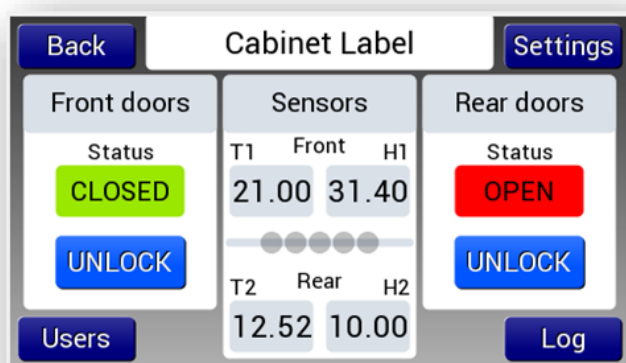
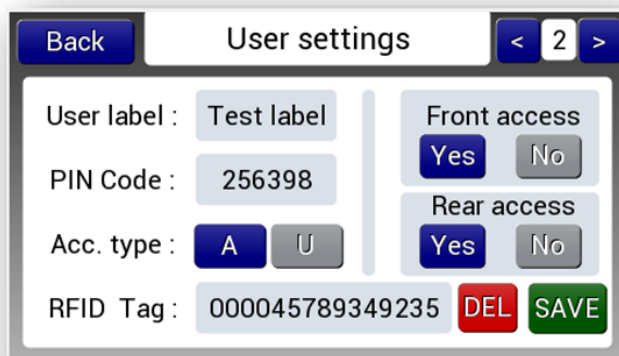

Figure 6
Figure 11
- **Login** – moves you to the status screen (depending on the privileges) shown in Fig 6.
In case of the previously selected “Login” function the use of the “Continue” button will move you to the status screen shown in Fig. 6.
Figure 11 shows the user account settings section which is referred to by the “Users” button on the start page (Fig. 6). The following fields can be configured for each of the 30 available accounts:
The EMI - Lock system is equipped with an internal event log with a capacity of 100 entries, which is saved in the non-volatile memory of the device. The access to the log card, shown in Fig. 13, is possible using the “Log” button on the status page (Fig. 6).